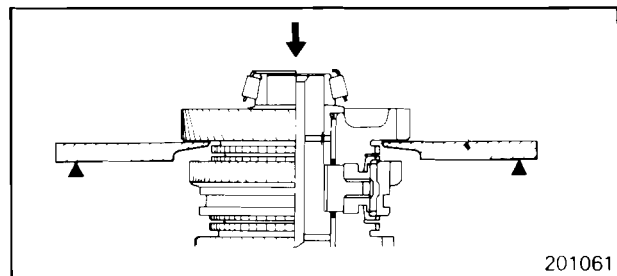

Fig. 42—1st gear bearing removal
- (1) Remove intermediate gear front bearing snap ring.
- (2) Using suitable press plates remove the front taper bearing, 1st speed gear and bearing sleeve, refer Fig. 42.